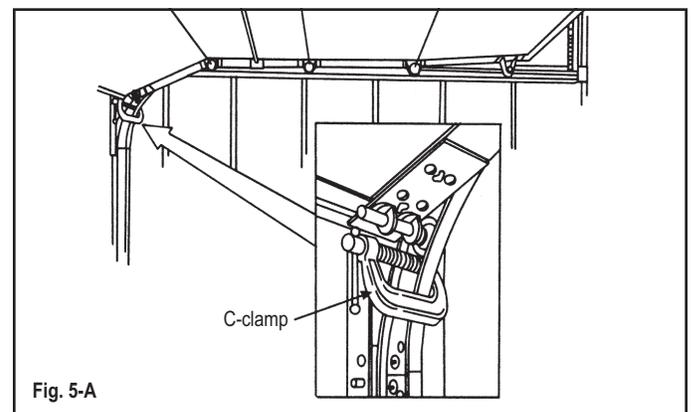

Fig. 5-A
- Place C-clamps or locking pliers tightly on both sides of track under door so door is held securely in place (Fig. 5-A).